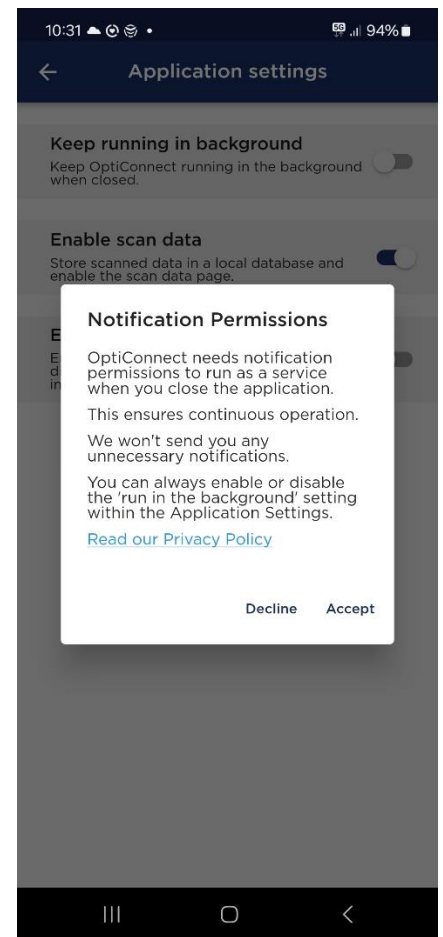

Figure 4-3: The Notification Permissions dialog when enabling *Keep running in background* (Android only).
Notification Permissions: For this functionality to work on Android, OptiConnect requires notification permissions (see Figure 4-3). These permissions enable the application to run as a *foreground service*, which
3. When prompted, grant the necessary notification permissions (see Figure 4-3).